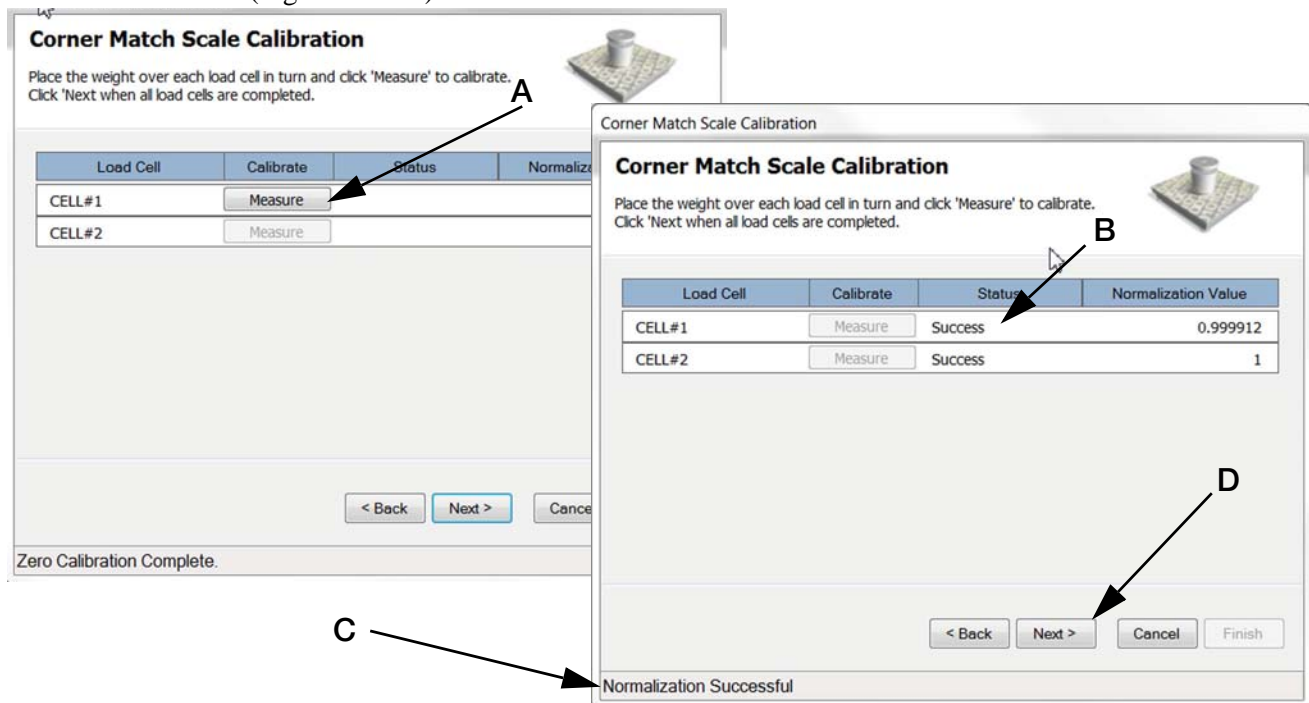

Figure 4-13. Load Cell Calibration
8. Press *Measure* (Figure 4-13 A).
9. Load Cell #1 Status will read "Success" (Figure 4-13 B) and Load Cell #2 *Measure* will become available. Repeat steps 9-11 for Load Cell #2.
10. When both load cells have been calibrated (status reads Success for both Cell #1 & #2, Figure 4-13 B) and the "Normalization Successful" message appears (Figure 4-13 C) press *Next* (Figure 4-13 D).